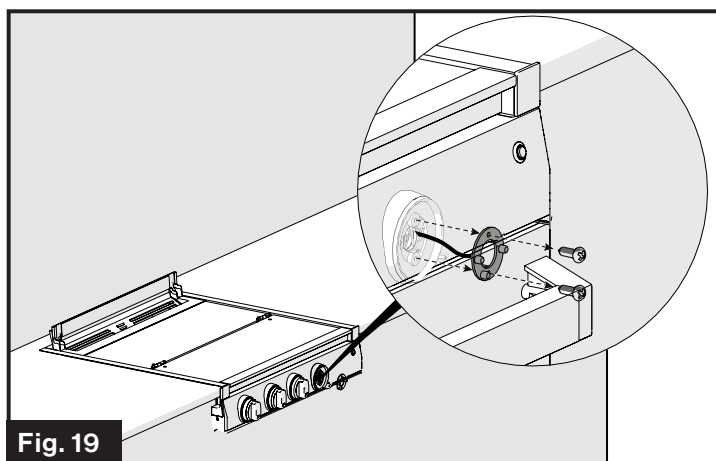

Fig. 19
3. Remove the two screws holding the LED light using a Phillips screwdriver. (Fig. 19)